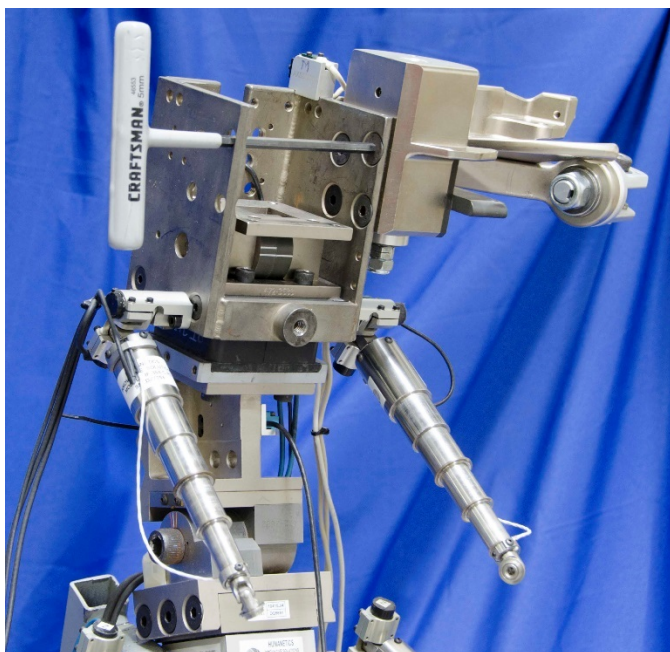
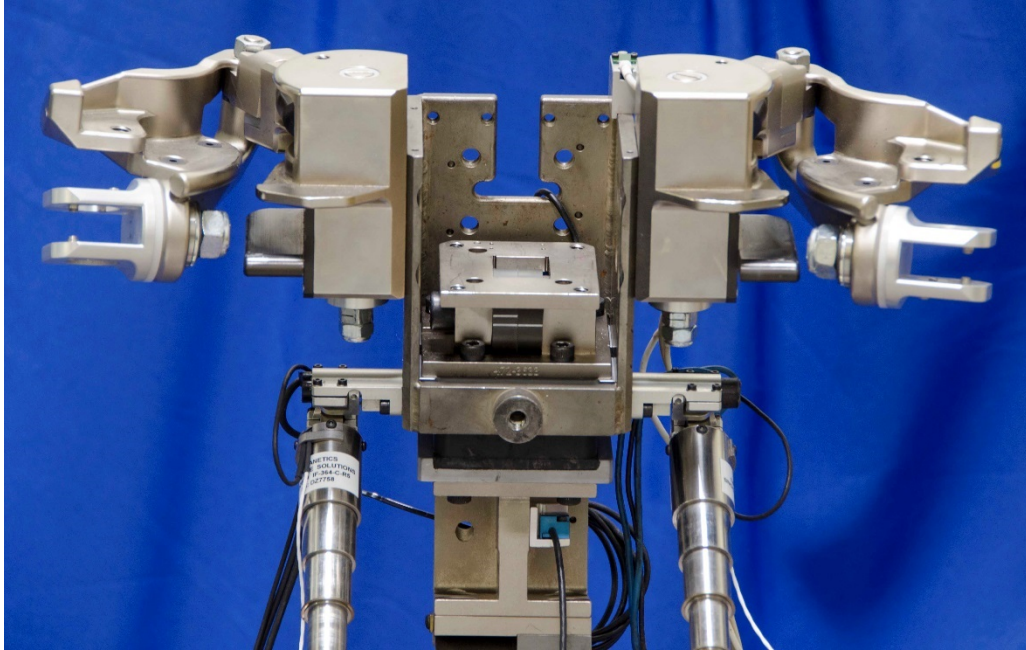

Figure 6-34. Install (left) shoulder to thorax
Figure 6-35. Shoulders installed
6.2.2.28 Attach the shoulder to the dummy using four M8 x 1.25 x 12 FHCS (Figure 6-34 and Figure 6-35).